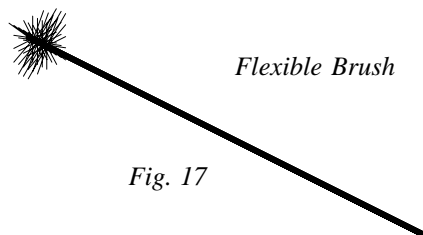

Fig. 17
*Clean fly ash from heat exchanger tubes with flexible brush (Fig 17). There are two vertical tubes on each side and a horizontal side tube which runs front to back. There is also a horizontal tube across the back which can be cleaned through the rear access port (Fig, 18). After the fly ash is brushed loose, use a vacuum cleaner to extract to extract the residue.